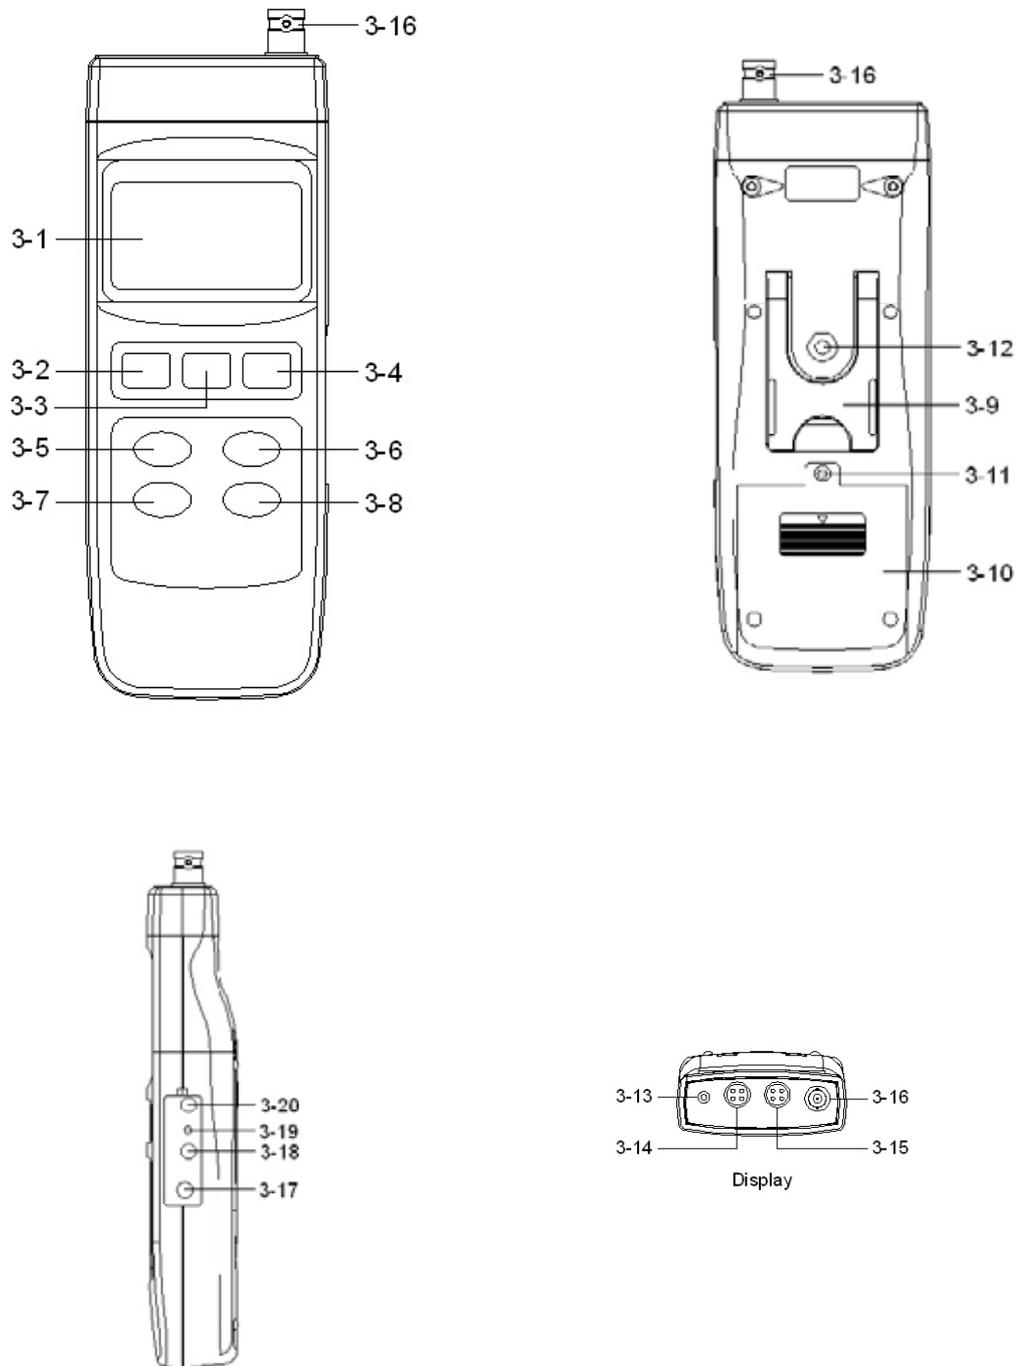

Fig. 1
- " PH /BNC " (3-16, Fig.1)
- 2) Power " (3-2, Fig.1) ON
- Mode " (3-5, Fig.1)
( 3-13, Fig.1), ( TP-07 )
- "PH /BNC "(3-16, Fig.1)
5) " REC Button "(3-4,) " HOLD Button "(3-3,Fig.1) 가
Button"(3-5,Fig.1)," Button"(3-6,Fig.1)
- 4) " REC " ( 3-4,Fig1) " HOLD Button " ( 3-3,Fig.1) 가
- 5) " Button " ( 3-5,Fig.1), " Button " ( 3-6,Fig.1)